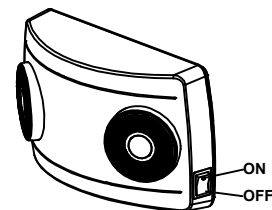

Fig 4
4. Under normal situation, Discharge switch keep at "ON" position, the unit working like typical emergency light(see Fig 4).